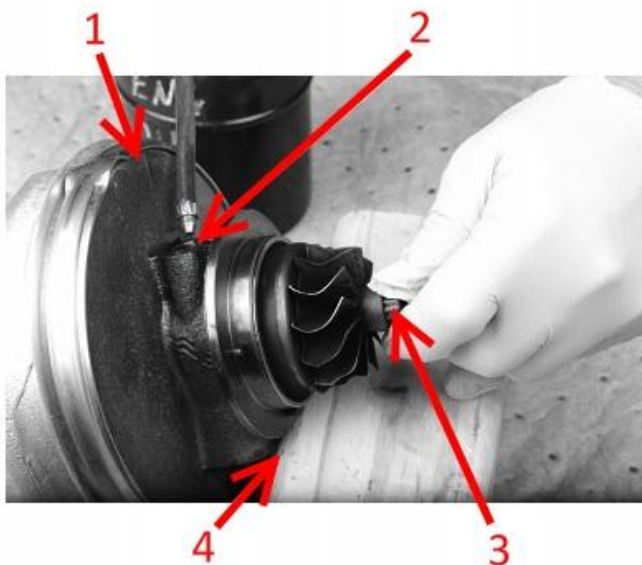

Figure 14: HP Turbocharger Center Section Priming
3. Using 15W-40 engine oil, prime the new HP turbo center section oil supply port (**Figure 14**, Item 2) while spinning the turbine wheel nut (**Figure 14**, Item 3) until oil begins exiting the oil drain port (**Figure 14**, Item 4).